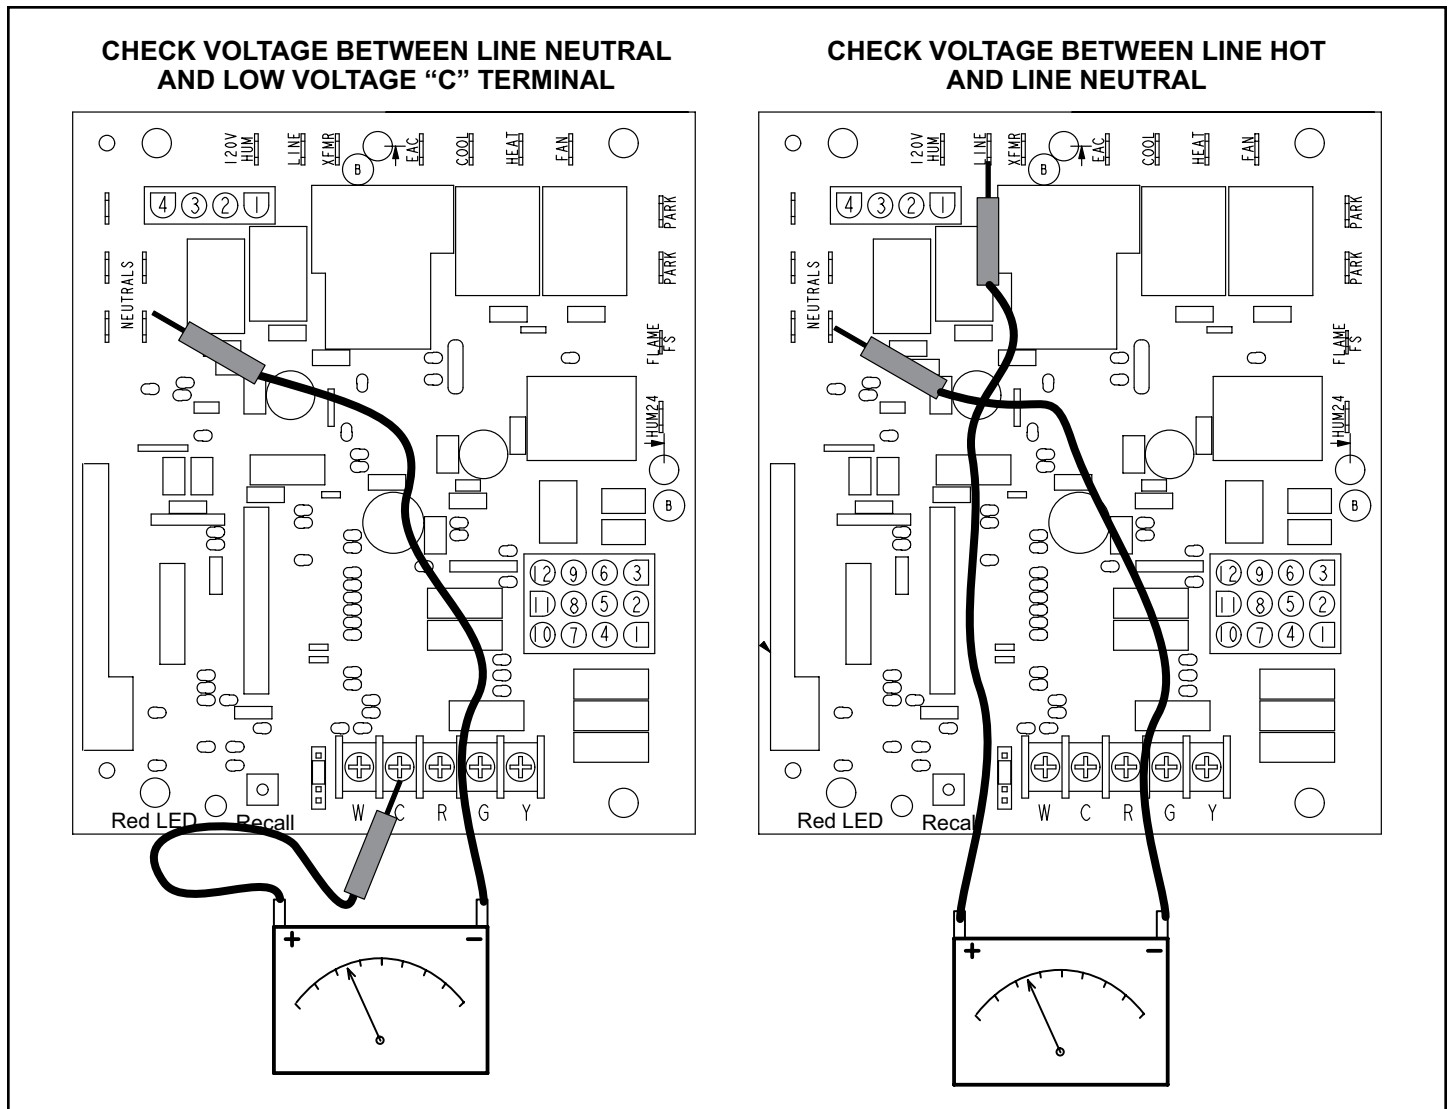

Figure 19.
1. Measure the AC voltage between Line Neutral (spade terminals) and "C" terminal (low voltage terminal block) on the integrated control. See Figure 19. A wide variation in the voltage between Line Neutral and "C" as a function of load indicates a poor or partial ground. Compare the readings to Table 12. If the readings exceed the maximum shown in Table 12, make repairs before operating the furnace.
2. In addition, measure the AC voltage from Line Hot to Line Neutral (spade terminals) on the integrated control. See Figure 19. This voltage should be in the range of 97 to 132 VAC
Blower speed tap changes are made on the integrated control. See Figure 3 or Figure 19. The heating tap is connected to the "HEAT" terminal and the cooling tap is connected to the "COOL" terminal. On all units the continuous blower tap is connected to the "FAN" terminal. Unused taps must be secured on two dummy terminals labeled "PARK". To change out existing speed tap, turn off power and switch out speed tap with tap connected to "PARK". See blower speed tap table on unit diagram for motor tap colors for each speed.